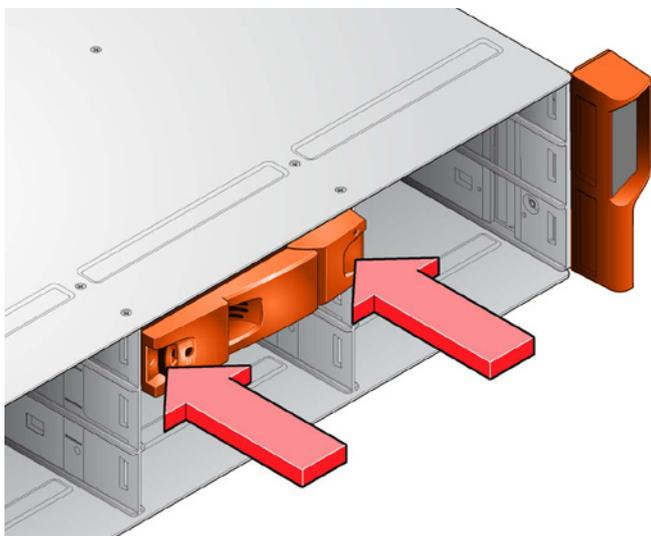

Figure 8: Fitting Drives (Note: ensure the carriers are fully engaged in the enclosure.)
**IMPORTANT INFO:** Ensure that all drive carriers are fully engaged in the enclosure by firmly pushing each one home fully into the slot (See Figure 8).